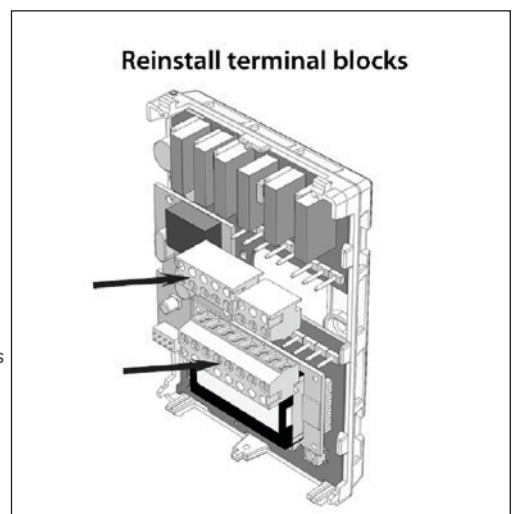

Figure-3 Terminal Block Reinstall
12. Reinstall the wiring terminals in their correct locations (Figure-3).